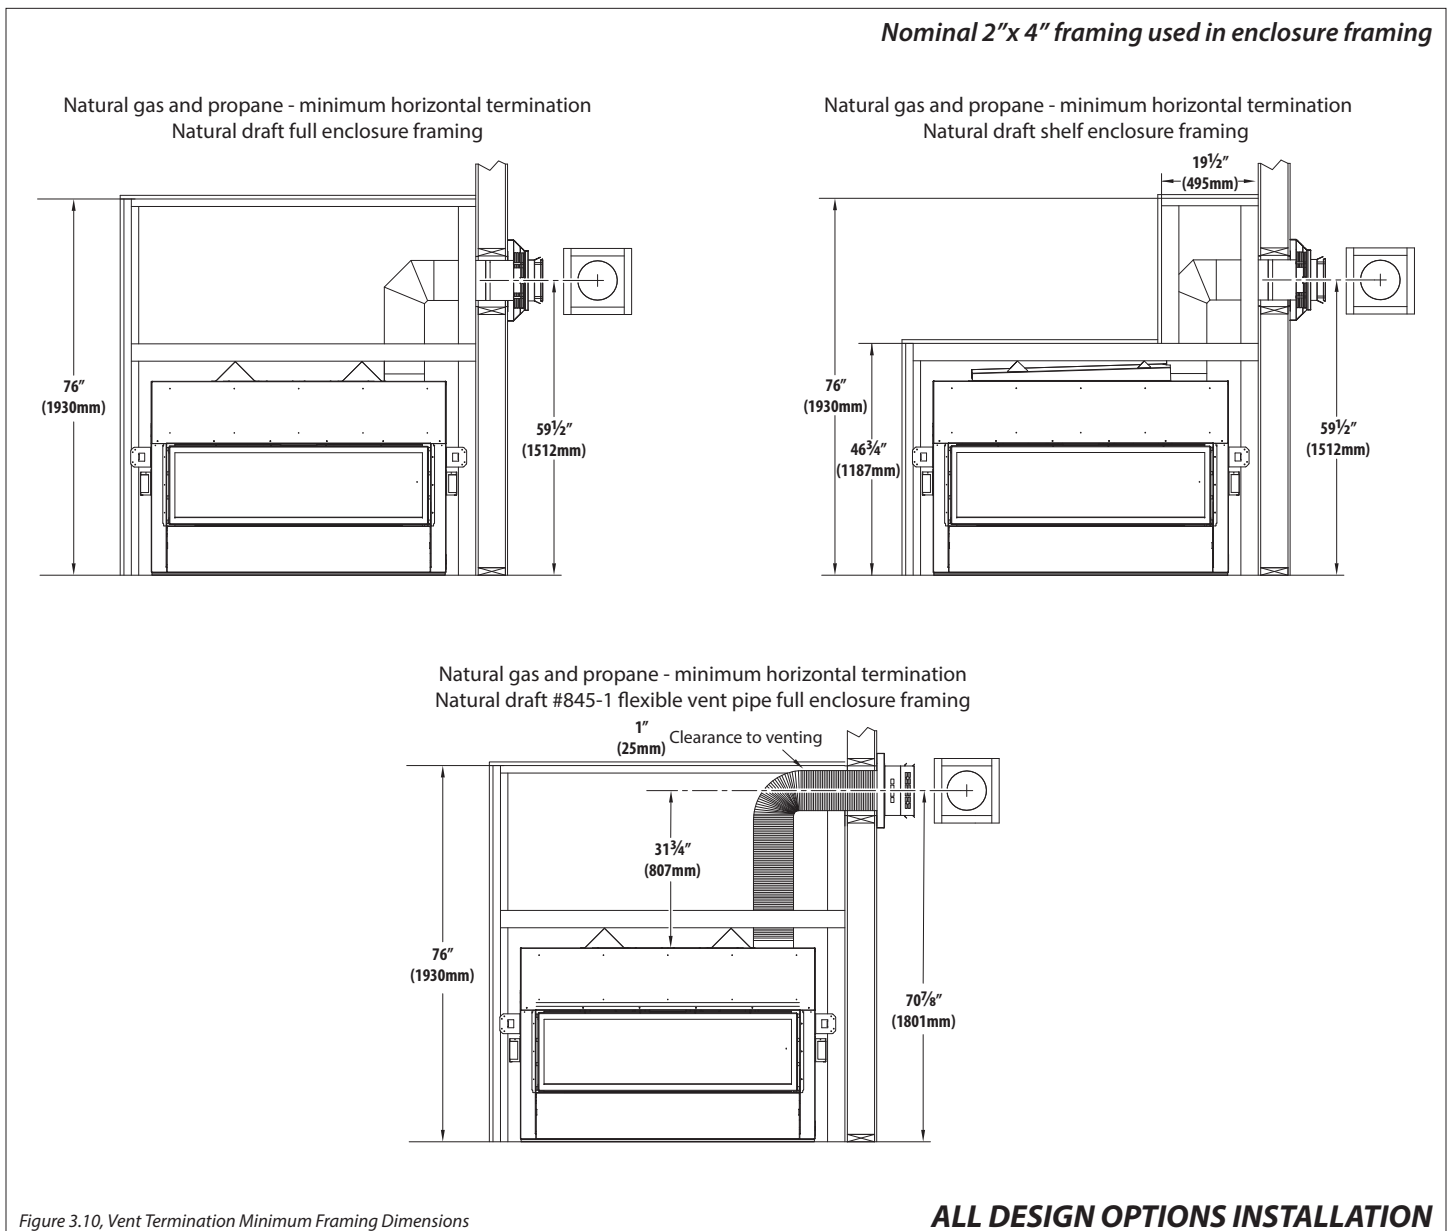

Figure 3.10, Vent Termination Minimum Framing Dimensions
- The Kozy Heat #845-1 flexible venting pipe shown in Figure 3.10 is 31-3/4" (807mm) from the top of the unit to the center of the vent termination with a minimum bend radius 6" (152mm) to center. Maintain the clearance between venting and combustible ceiling in the fireplace enclosure as shown in Figure 3.9.
- Measure from floor level of the fireplace to the center of where the vent pipe will penetrate the wall. The rigid pipe dimensions in Figure 3.10 is used with a Simpson DuraVent elbow.